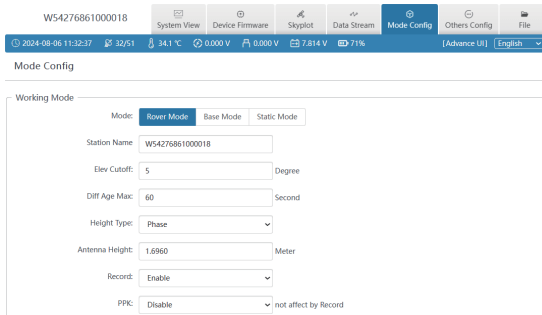

Figure 2.5-1
① **Working mode:** You can select Rover Mode/ Base Mode/Static Mode, and select the Elev Cutoff at the same time.
1. **Rover Mode:** the following parameters (Station Name, Elev Cutoff, Diff Age Max, Height Type, Antenna Height, Record, PPK) can be configured, as shown in Figure 2.5-1: